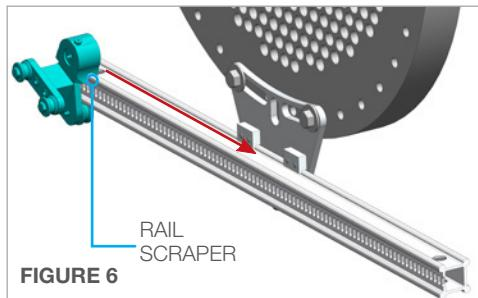

FIGURE 6
- Angle the **Idler Carriage** as shown to allow the Idler Carriage to engage with the lower rail properly. Rotate it back to the vertical position and slide it towards the lower Rail Clamp. (Figure 6)